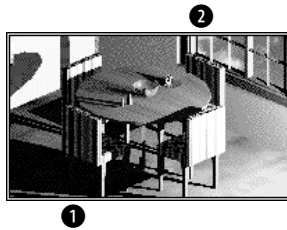

**Figure 27-8:** Clipping the raster image.
9. Choose Modify ⇨ Clip ⇨ Image. At the Select image to clip: prompt, select the image again, which is shown in Figure 27-8. Follow the prompts:
Specify first corner point: If OSNAP is on, turn it off. Pick ❶ in Figure 27-8.